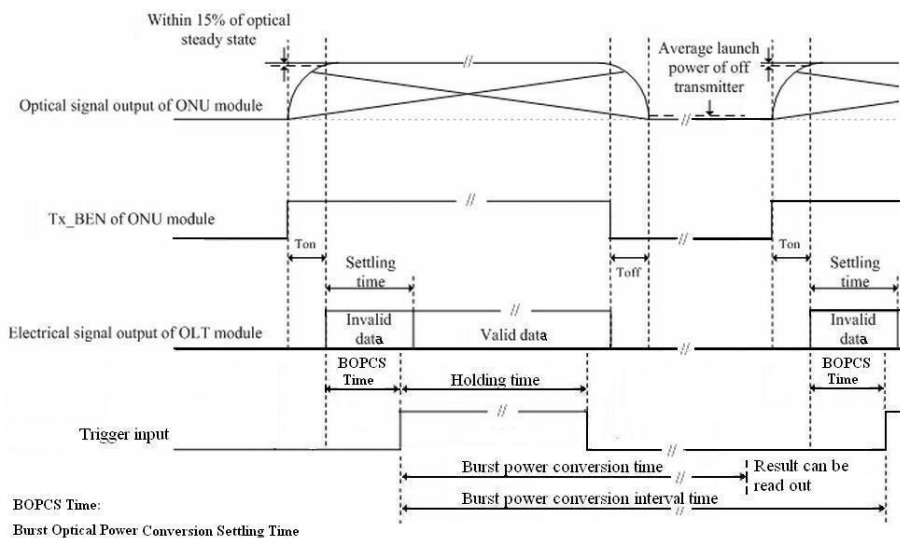

Figure 2, Time parameter definition in EPON system
6. Define Tsettling as the time from the Tx\_BEN assertion, minus the Ton time to the time the electrical signal the Receiver output reaches within 15% of its steady state conditions. It is shown in the Figure 2.
9. See Figure 2.